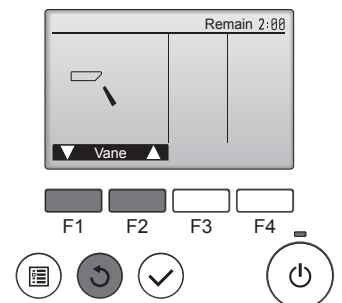

Fig. 9-5
- Press the [SELECT] button to display the Vane operation screen, and then press the [F1] and [F2] buttons to check the auto vane. (Fig. 9-5)